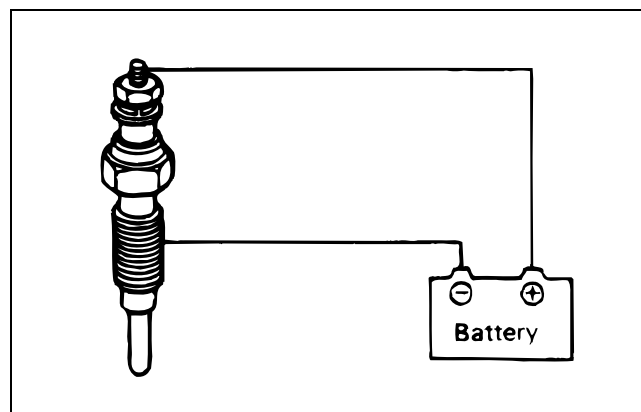

Figure 34
4. Connect the positive (+) battery terminal to the glow plug terminal, and the negative (-) battery terminal to the plug body (Fig. 34). If the glow plug glows red-hot in 9 to 12 seconds, the glow plug is operating correctly. DO NOT leave on more than 20 seconds.